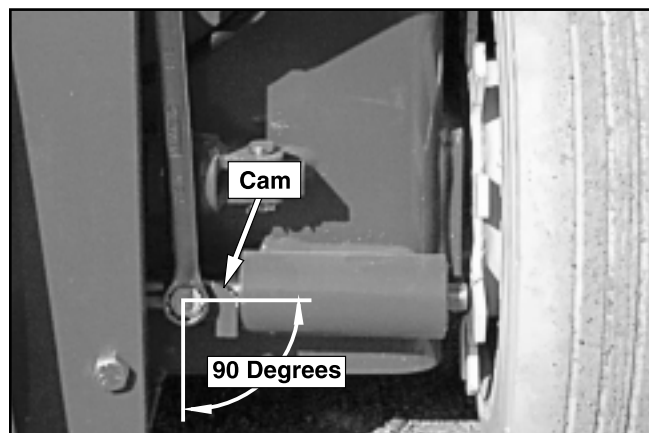

Figure 11.2—Brake Release Cam
3. Use a \$ wrench to rotate each brake release cam 90° (refer to Figure 11.2). Rotate the cam on the right brake cylinder counterclockwise